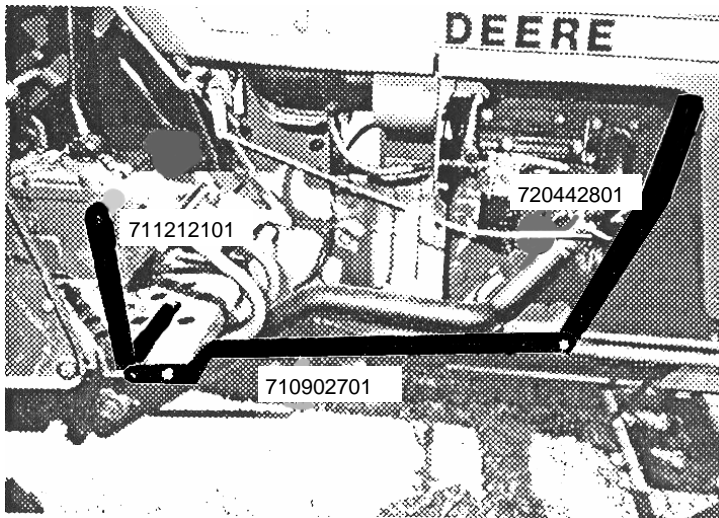

Figure 1
See Figure 1
3. **DOWN EXHAUST ONLY:** Attach # 710902701 Exhaust Guard to front outside hole in platform using 3/8x1 1/2" hex bolt and nut. Attach # 720442801 Exhaust Guard WA to # 710902701 Exhaust Guard using 3/8x1 1/2" hex bolt and nut. Clamp Exhaust Guard WA to exhaust pipe 5/16x1 3/4" U-bolt. See Figure 1